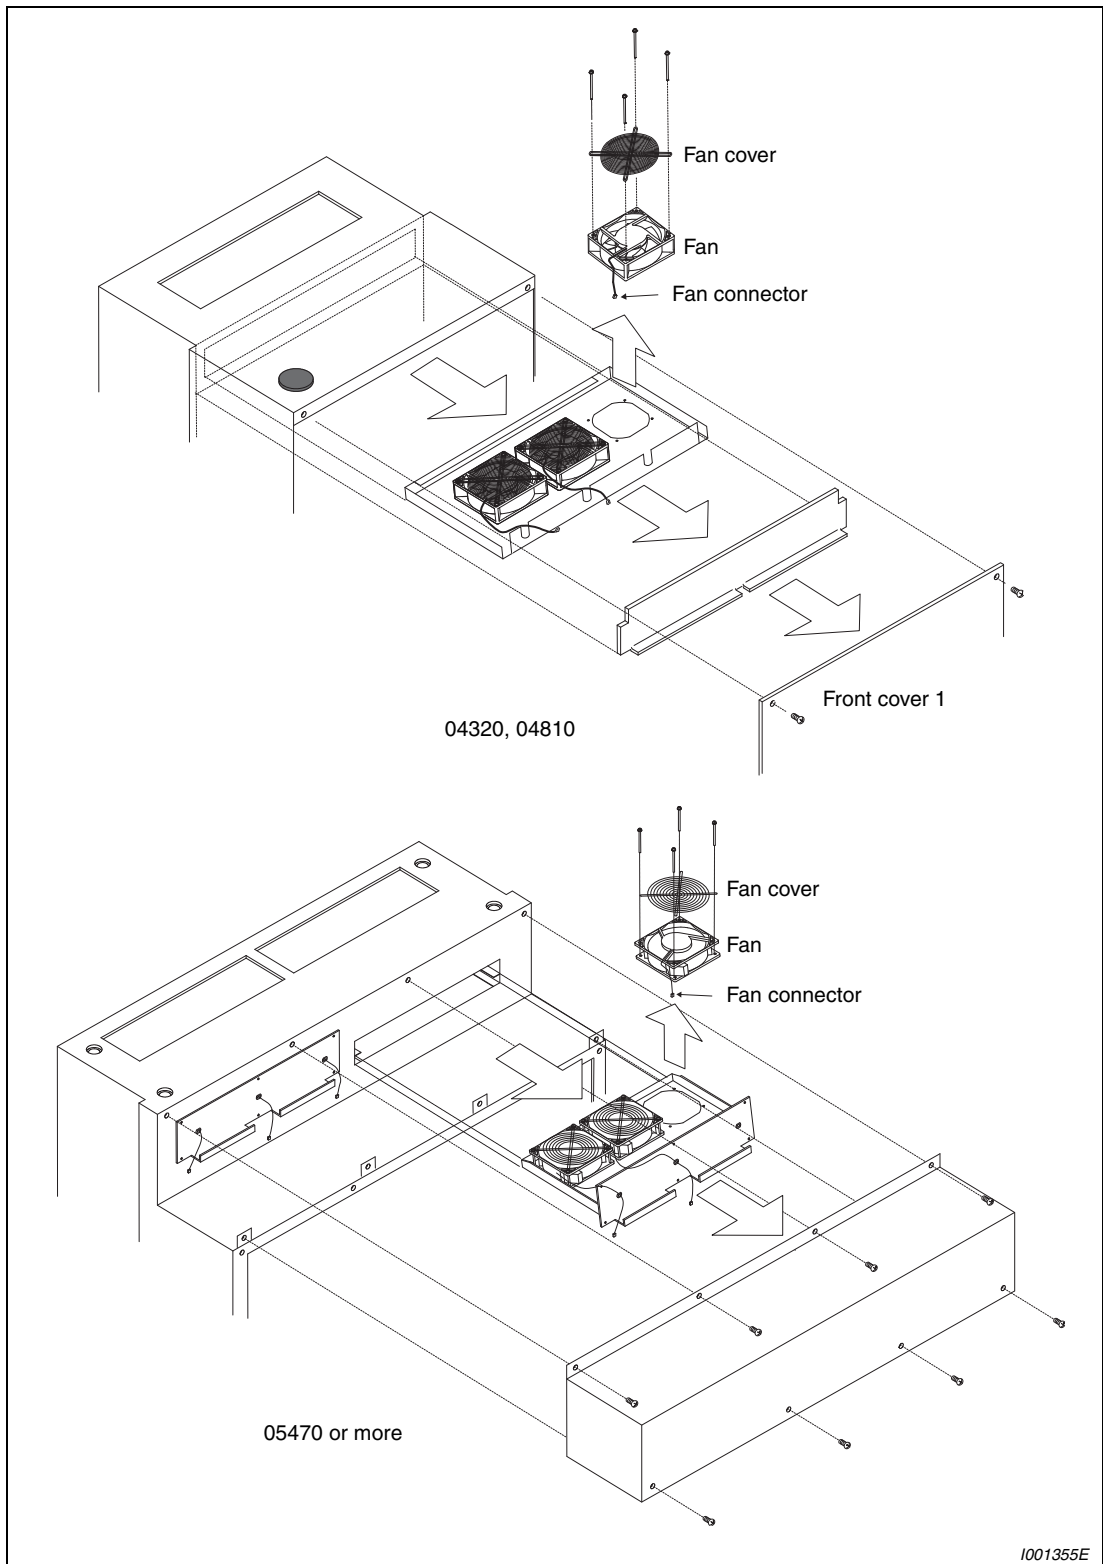

Fig. 8-9: Removal of the fan
- ② Install fans referring to Fig. 8-9.